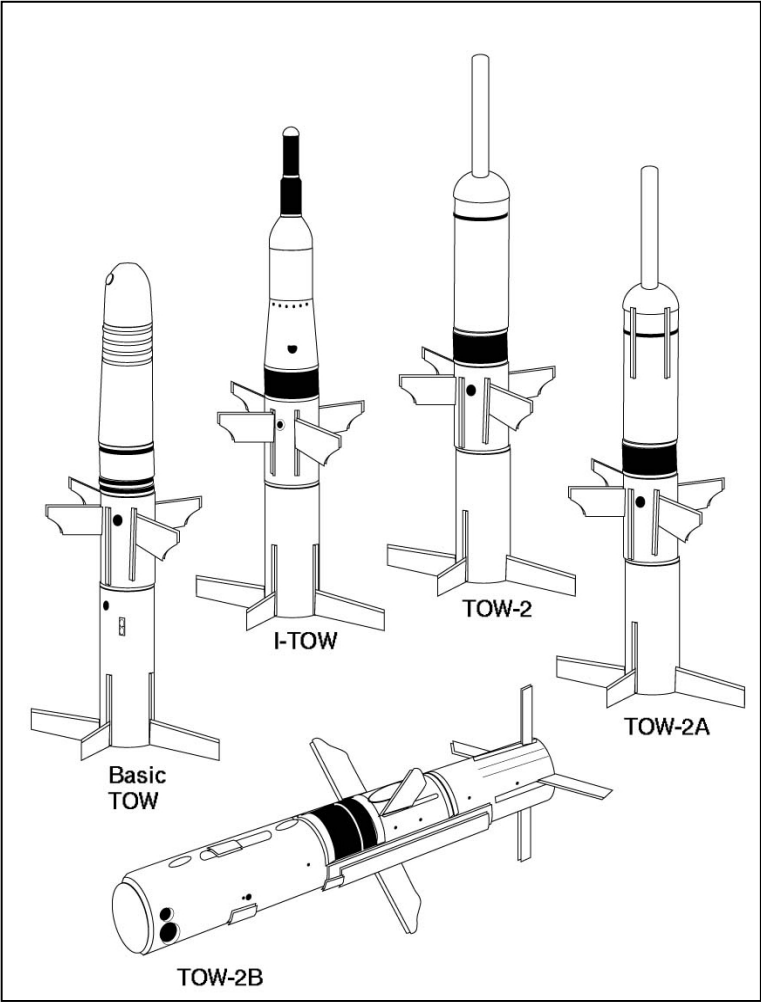

Figure 5-1-1: TOW Missile Types
10. **TOW 2 Missile Components** (Figures 5-1-1 to 5-1-5). The following are the main components of the TOW 2 missile: